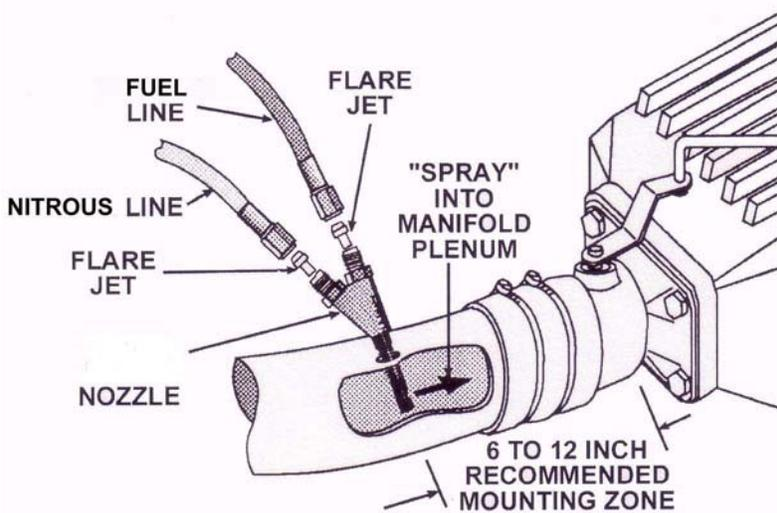

FIG. 5
Note: The recommended mounting location for the Wet nozzle (5) is in the air inlet duct, between the throttle body and Your Factory mass airflow sensor. In certain applications where the throttle body is an integrate part of the air cleaner housing, install the nozzle between the throttle body and the intake manifold. If possible, install the nozzle between 6 and 12 inches before the throttle body or any major turn in the air inlet duct. See figure 5. Mount the Dry Nozzle (5A) In Front of the mass airflow sensor so that the nitrous will blow onto the hot wire element in the sensor! Its best to try and mount the dry nozzle a foot away from the sensor otherwise the nitrous might blow right pass the sensor and the additional fuel your injectors should add might not be there. Even mounting in the air cleaner lid is fine. The engine airflow will pull the nitrous fog right by the sensor so this is the best mounting location.
- 1) Select the proper nitrous and fuel jets (15). Place the desired jets into the nozzles, making sure that the jets are inserted into the correct locations, as marked in figure 5 Check the jet cart for correct jet sizes.
- 2) Connect and tighten the blue fitting side of the 2 ft. 3AN hose (10) to the wet nozzle, see figure 5
- 3) Connect and tighten the red fitting side of the 2 ft. 3AN hose (10) to the wet nozzle, see figure 5
- 4) Connect and tighten the blue fitting side of the 2 ft. 3AN hose (10) to the dry nozzle, see figure 5